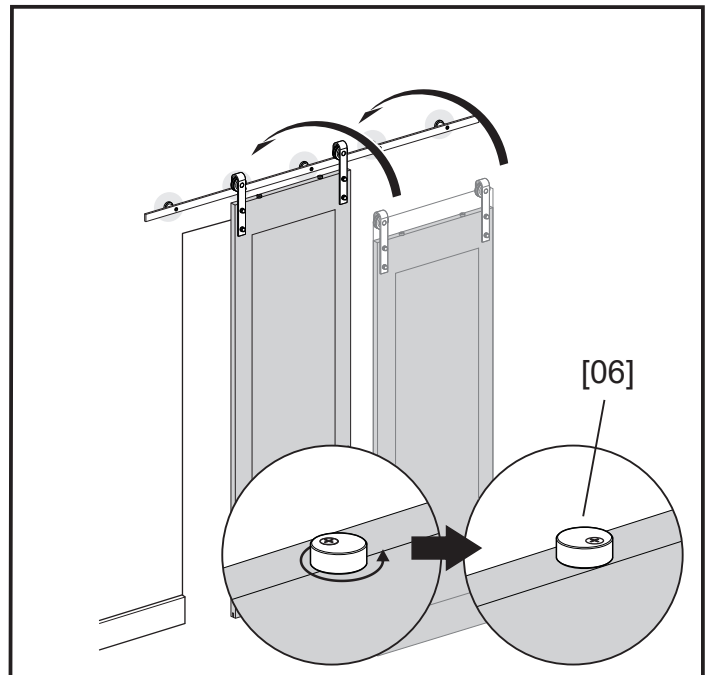

Fig 6
2. Slide door back and forth to test how well the door covers the opening. (Fig 6)